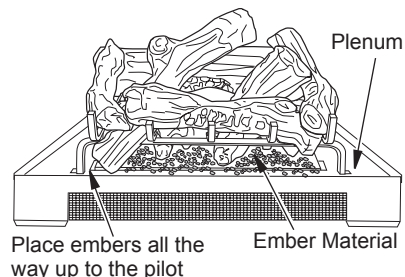

Figure 39 - Placing Ember Material on Burner
1. Pull ember material apart into pieces no larger than a dime. Place these pieces loosely and sparingly directly onto exposed front section of burner (see Figure 39). This will create the glowing ember appearance as flame touches ember material. Do not block air slots by using too much ember material in one area. Place small pieces of ember material up to the pilot and cover all pilot ports. It is not necessary to use all of the ember material provided.